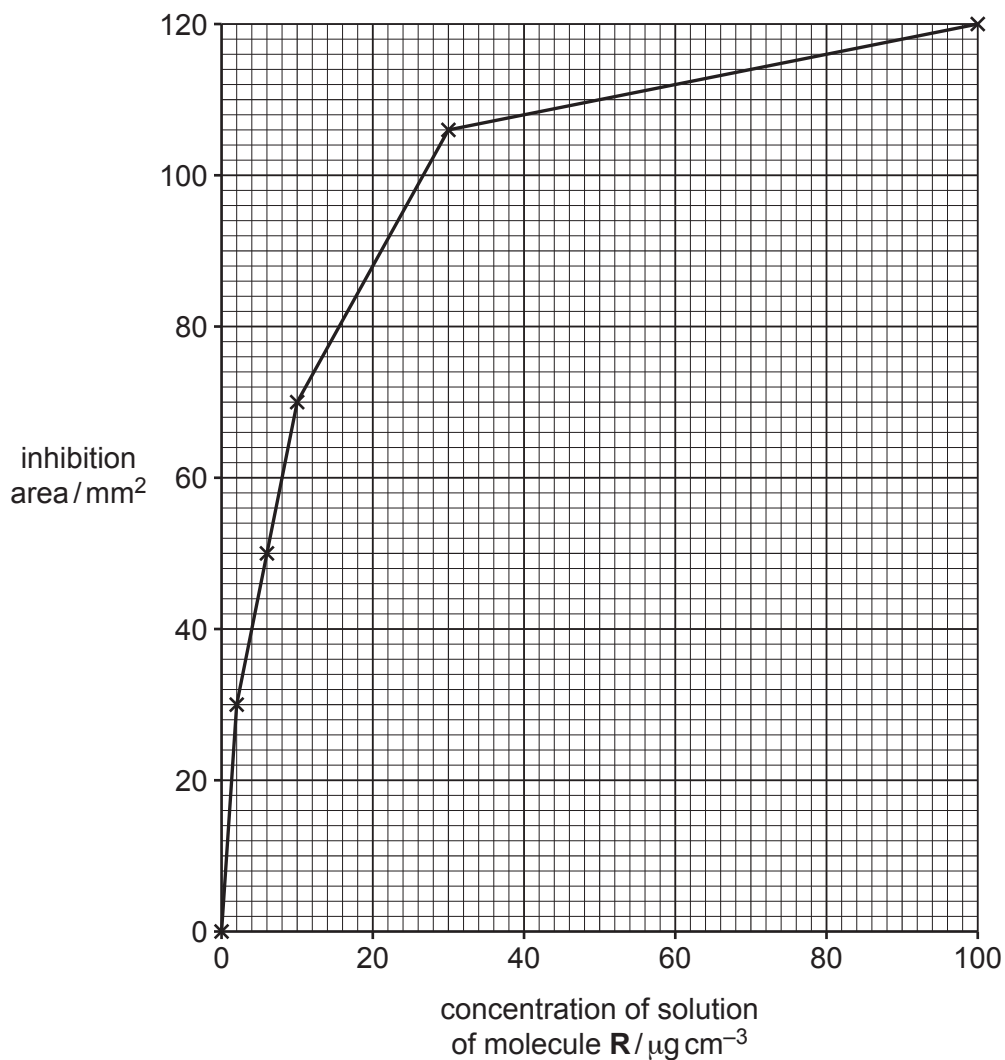

Fig. 1.5
The results are shown in Fig. 1.5.
- (i) Use the graph in Fig. 1.5 to estimate the concentration of plant extract that results in an inhibition area of 92 mm^2 .